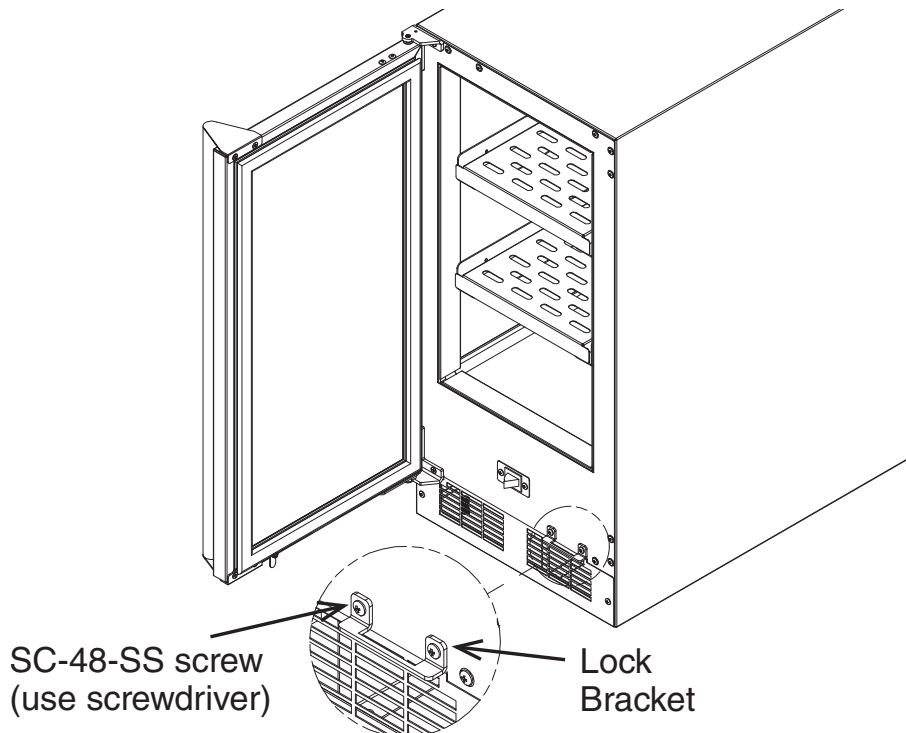

FIG. 13
**Step 11.** Finally attach the Lock Bracket to the lower right corner using the SC-48-SS screws, removed in Step 1. See figure 13.